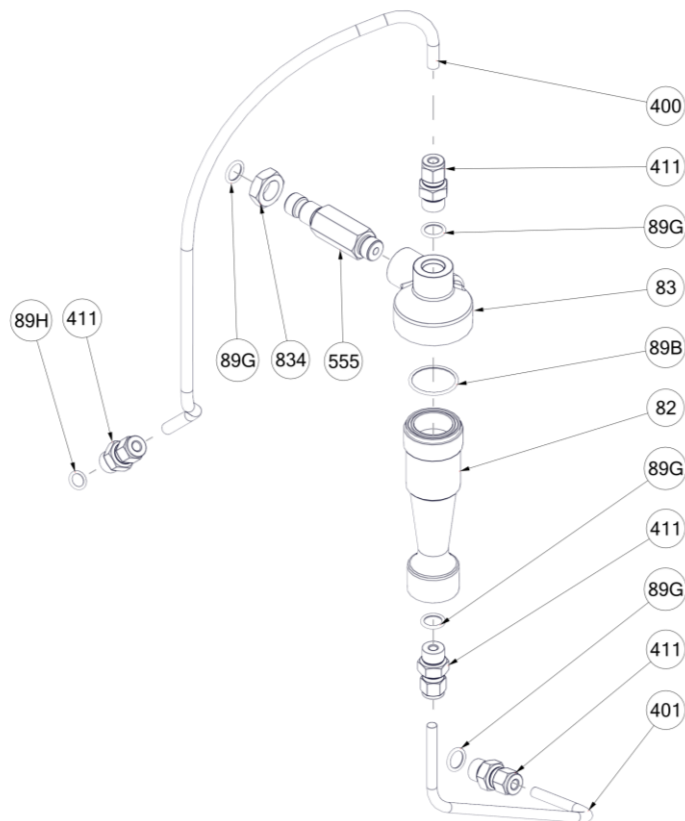
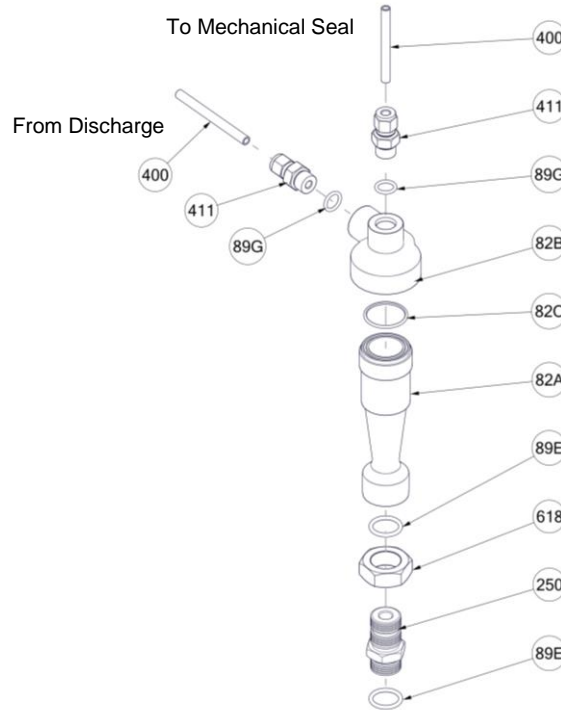

Figure 7. Discharge Mounted Abrasive Separator
Figure 8. Suction Mounted Abrasive Separator
18. Check front impeller (2) wear ring wearing surface for concentricity and wear. Place impeller on an arbor and mount between centers in either a lathe or a grinder. Indicate hub to within 0.004 Total Indicator Runout (TIR) maximum to be sure that arbor and impeller are running square. Grind or turn front impeller wear ring wearing surface (Up to 0.050 inch material removal for metal and 0.030 inch material removal for composite.) until a 63 Root Mean Square (RMS) for metal or a 250 RMS finish for composite is obtained to meet 0.004 inch TIR requirement.
19. Measure back impeller (2) wear ring wearing surface OD and record.
20. Mount the backcover/adaptor (71) with new backcover/adaptor wear ring (7X) installed in a lathe. Indicate male rabbet to within 0.002 TIR maximum. Listed in Table 9 or provided on the sectional assembly drawing in Appendix A.
23. Make sure that the forcing bolts (611) are below the surface of the suction cover (9) Align suction cover with volute (1) and slowly slide suction cover onto volute. Avoid sideways motion that may damage composite impeller or suction cover wear ring (7). Secure suction cover with locknuts (617) on studs (632). Tighten forcing bolts finger tight. If applicable, tighten jam nuts (621) to secure forcing bolts.
K. ABRASIVE SEPARATOR. The abrasive separator separates foreign particles from the fluid pumped, helping preserve the life of the mechanical seal. The foreign particles collect at the bottom of the abrasive separator. If the mechanical seal should ever need to be replaced, disassemble the abrasive separator and check to make sure the abrasive separator is not clogged. Additionally, if leakage is detected at the abrasive separator, disassemble the abrasive separator and check the O-rings. Replace old, worn, or damaged O-rings with new O-rings. Refer to Figure 7 if the abrasive separator is mounted on the discharge flange and Figure 8 if mounted on the suction flange.